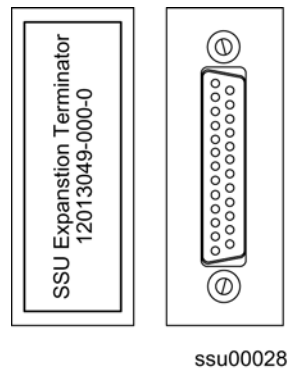

Figure 2-14. SSU-2000e Expansion Terminator
4. If not connecting additional expansion shelves, verify that the Bus Termination Assembly is inserted into the last SDU Interface (J105) and last SDU Backup Clock (J106) of the main SDU-2000e shelf, see Figure 2-14.
The SDU-2000e Expansion Chassis has interface connections on the front panel for connecting to an SSU-2000e Synchronous Supply Unit. Connections include the SDU Interface (J103 and J105) and the SDU Backup Clock Terminal (J104 and J106). Figure 2-14 shows SDU-2000e expansion unit cabling.
Connection to the SSU-2000e is made through the SDU Interface Connectors. The SDU Interface Connections, J103 and J105, are 25 Pin D-Type female connectors with locking posts. The signals are differential pairs and connected in parallel. One connector is used to connect to a source unit, and the other is used for either a terminator or for feeding an additional SDU-2000e shelf. Up to four SDU-2000e shelves can be daisy-chained together. See Figure 2-14 for expansion unit cabling.
Figure 2-14 shows an SSU-2000e Expansion Terminator (part number 12013049-000-0). Install this terminator to the last expansion chassis in the daisy chain.